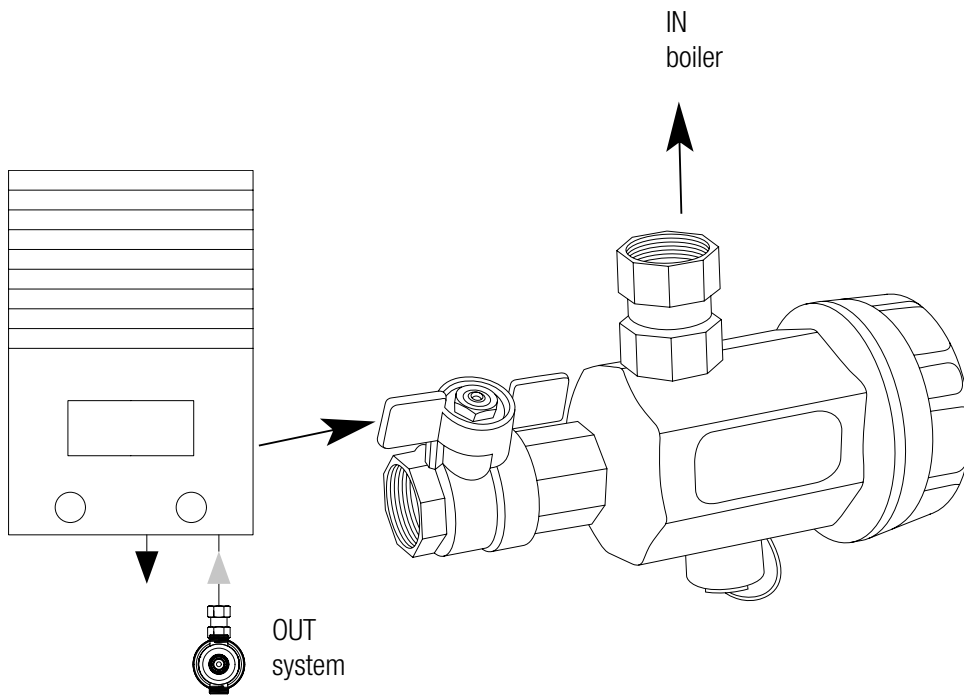

Fig. 1
- horizontal installation with cap facing forwards, where there is limited space beneath the boiler (e.g. boiler installed in a wall-mounted kitchen unit) (**Fig.1**)